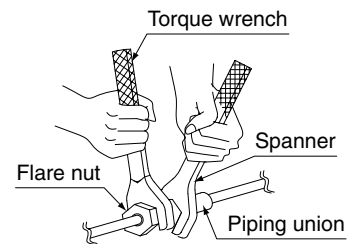

Fig. 4
- (1) Connect the piping.
- When connecting or disconnecting piping to or from the unit, **be sure to use two spanners and two torque wrenches. (Refer to Fig. 4)**